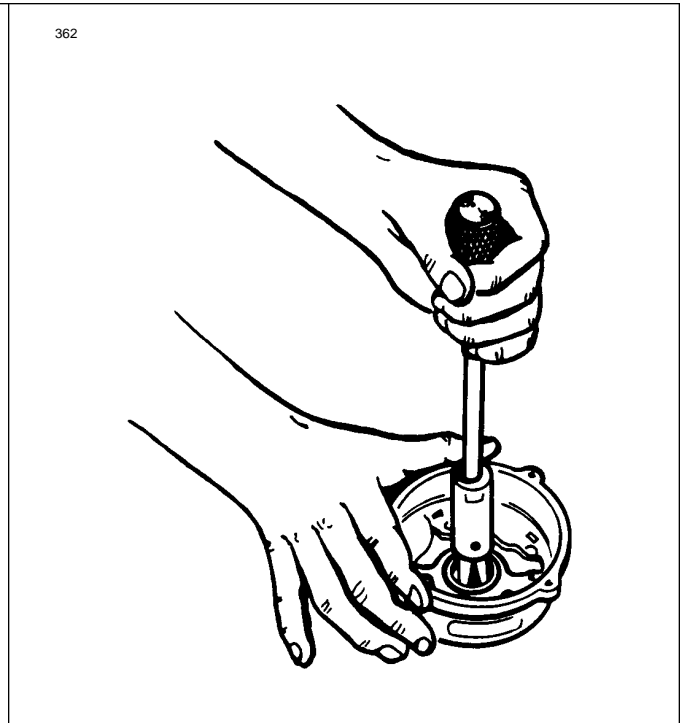

Figure 11-5 Removal of Slip Ring End Bearing
d. Remove the nuts, lock washers, flat washers and insulators from the output and auxiliary terminal studs. Note carefully the correct assembly of the insulator washers and bushing. Using the special tools shown in Figure 11-5, support the end head and press out the three rectifiers. The end head can now be separated from the stator assembly.